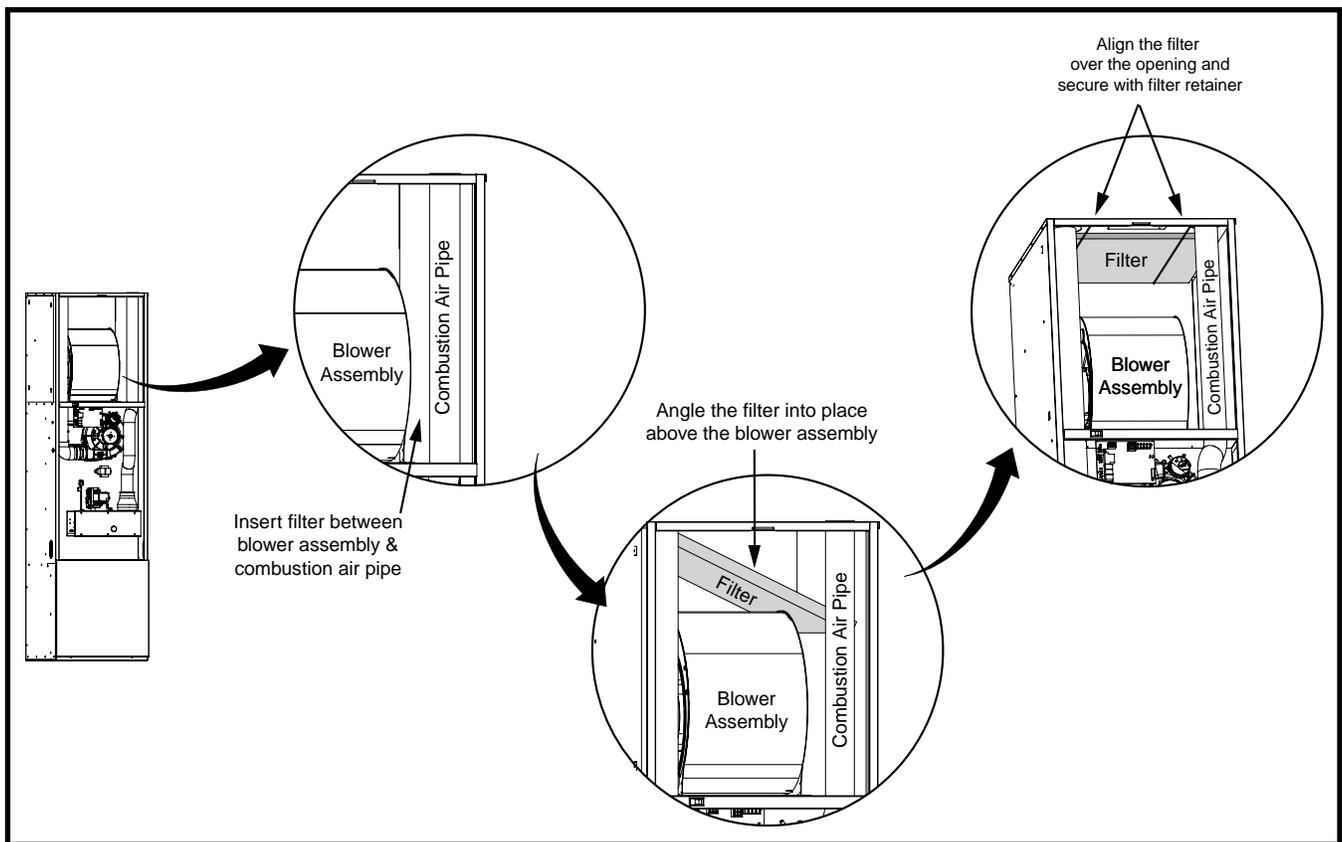

Figure 7. Filter Installation
1. Slide the standard 18"x18"x1" filter (NORDYNE P/N 669779) into the space between the combustion air pipe and the blower assembly. See Figure 7 (page 13). **NOTE:** Make sure the airflow arrows on the filter point towards the blower assembly.
4. Evenly align the filter over the opening in the top of the furnace cabinet and position the other end of filter retainer up over the flange in the furnace's top panel. **NOTE:** To properly secure the filter, make sure the filter retainer is properly positioned in the top panel of the furnace. There should be no visible air gaps. The retainer may slide left or right slightly, but must not have any movement between the front and rear. See Figure 7.